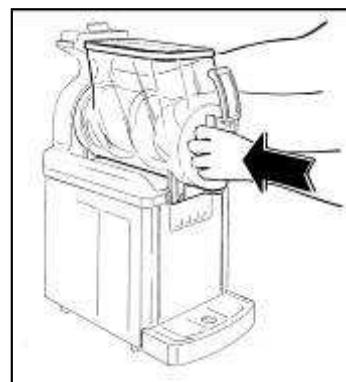

Рис. 38
- Reassemble the bowl by positioning it back into its seat, verifying that it faces in the correct direction and it is held in place by its seal (see Рис.38).